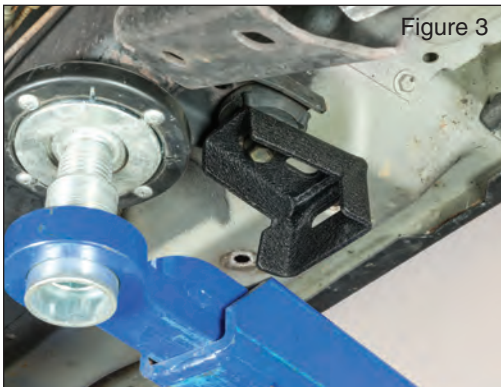

Figure 3: '97-'06 Wrangler (TJ)
*Make sure the end of the mounting bracket is pointed down (Fig 3 & 4). DO NOT Tighten! Leave these loose for further adjustment.*